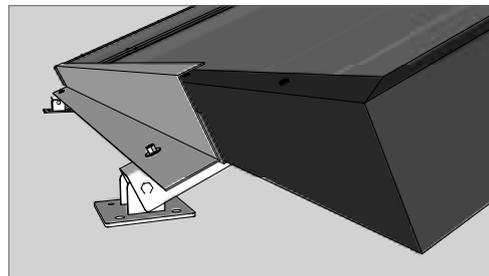
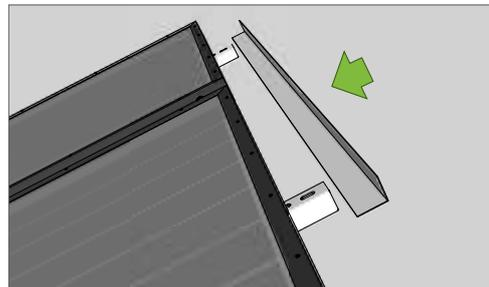

Fig 6
Fig 7
- Mount flat plate panel/s on frame (Fig 6) ensuring 2nd L-support is placed underneath top of panel/s for support as shown in fig 7.